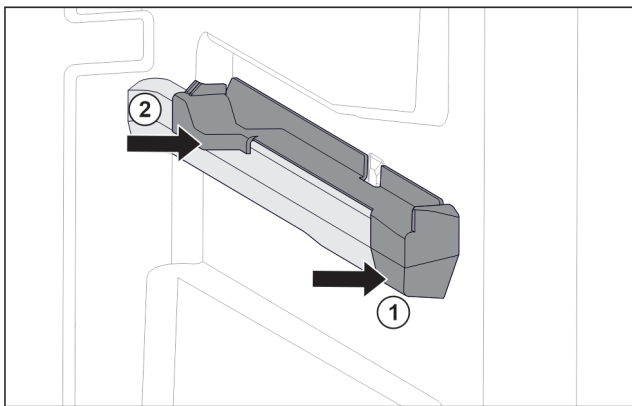

Fig. 54 Attachment on the right moulded rib
- ▶ Position attachment on moulded rib at the front. *Fig. 54 (1)*
- ▶ Press on attachment at the back. *Fig. 54 (2)*